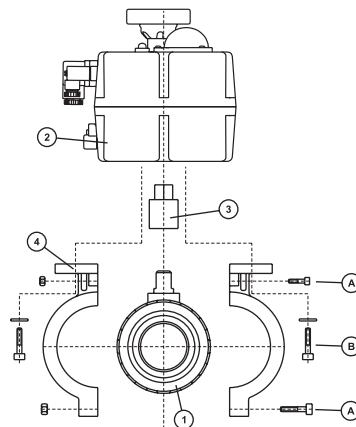

Fig. 19
5. Remove the screws (A, Fig. 19).
6. Separate the pneumatic actuator (4) from the bare shaft valve (Fig. 19).
7. Remove the screws (B) in order to dismantle the mounting clamp.
8. In the case that the actuator needs to be replaced by a handle, also remove the coupling bush (3, Fig.19).